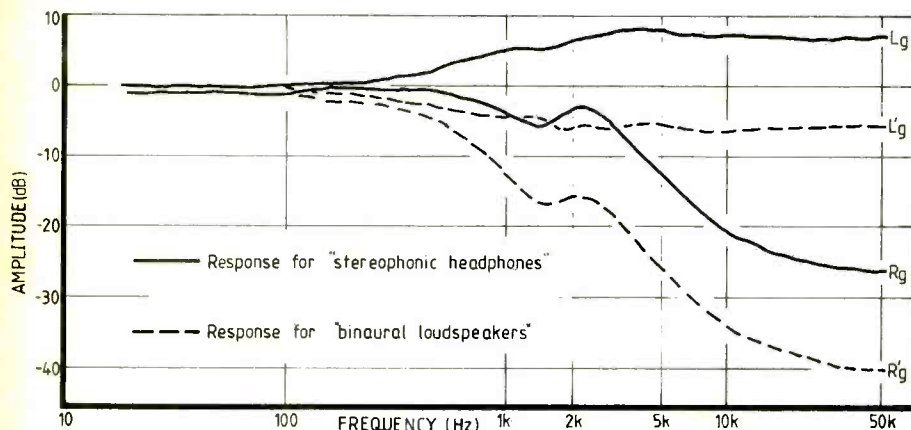

Fig. 12. Amplitude responses of Fig. 11 circuit for both headphone and loudspeaker switch positions.
circuitry for "stereophonic headphones" as well as "binaural loudspeakers" (ref. 3). The frequency responses are given in Fig. 12.